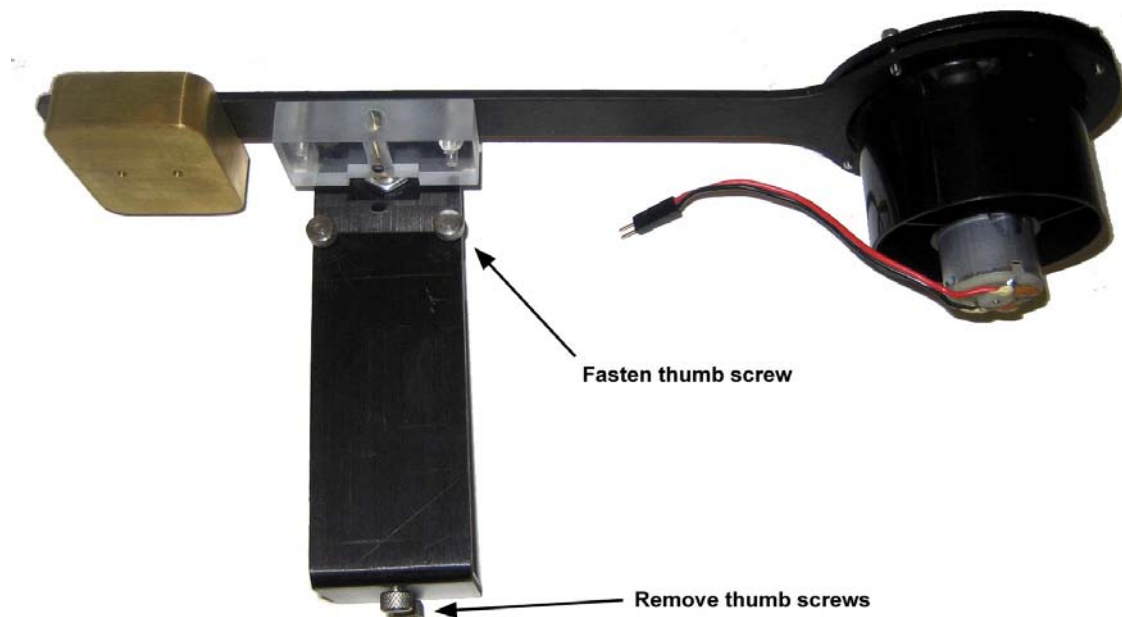

Figure 34: Re-tighten thumbscrew on support arm and remove the two bottom thumbscrews.
3. As shown in Figure 34, rotate the VTOL body so both thumbscrews on the support arm are located underneath and re-tighten the thumbscrew that was removed in the previous step.
4. Remove the two thumbscrews located underneath the support. The bottom screws to be removed are shown above in Figure 34.